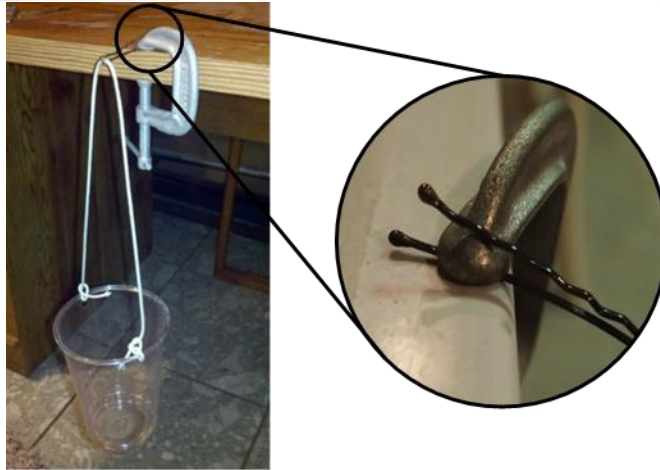

Figure 1 – Test set up
8. Punch a hole in each side of the cup and attach the twine as shown in Figure 1. Set up the control bobby pin as shown and be sure that the cup and string are hanging from the end of the bobby pin.
20. Set up the annealed bobby pin as shown in Figure 1. Load the pennies into the cup being held by the annealed bobby pin in the same fashion as the control bobby pin. Measure and record the deflection of the annealed bobby pin using a ruler.
25. Set up the quenched bobby pin as shown in Figure 1. Load the pennies into the cup being held by the quenched bobby pin in the same fashion as the control bobby pin.